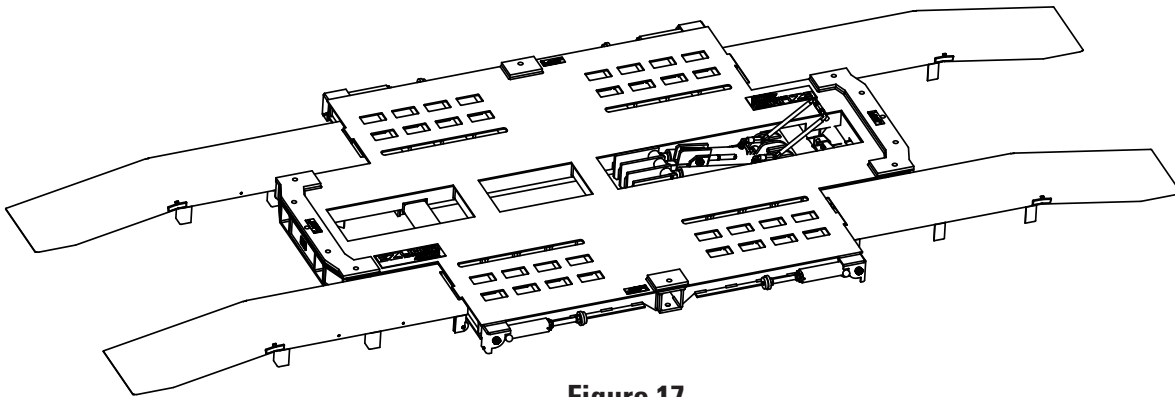

Figure 17
- Roll a Ramp to each of the four corners of the lift (see Figure 17).